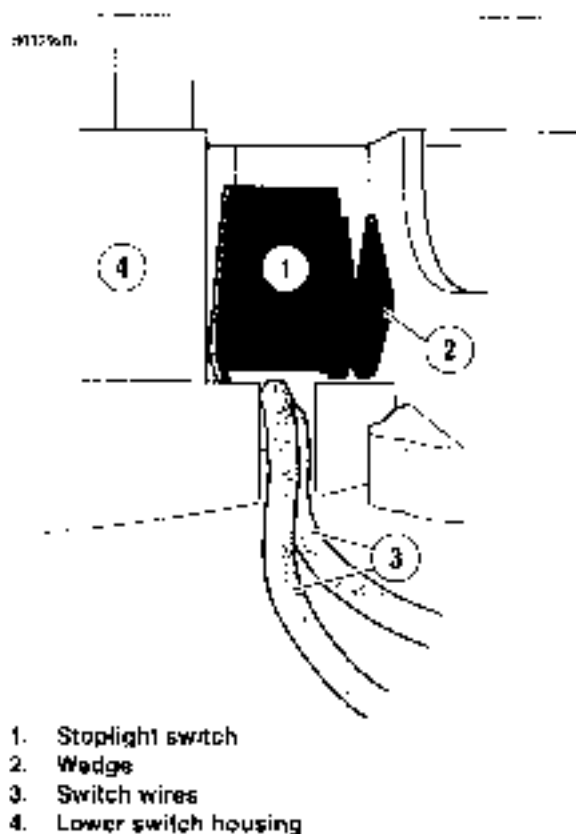

Figure 8-62. Install Stoplight Switch
6. See Figure 8-62. Push down on switch (1) so that it bottoms against housing and wires (3) run in groove at base of cavity. With the concave side facing outward, insert wedge (2) between switch and outboard side of switch housing.